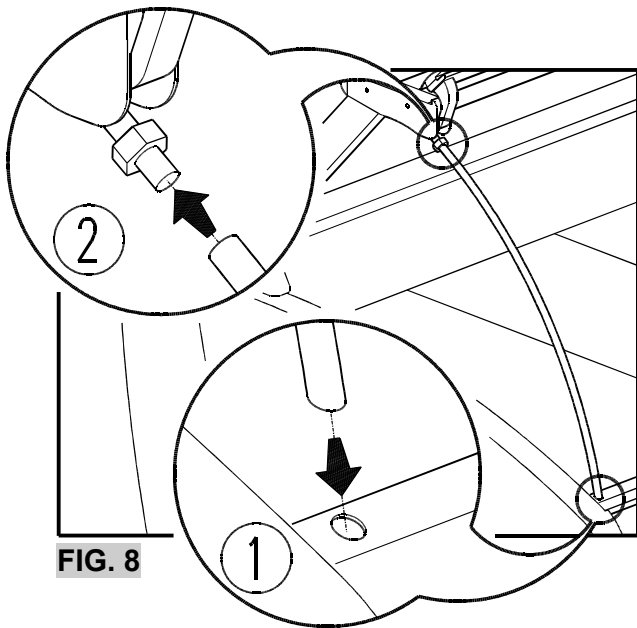

FIG. 8
- Insert the front curved support: first slide the cut and beveled part into the slot on the inside front of the basin, then fit the remaining part into the adjustable pin on the upright (FIG. 8 page 3).